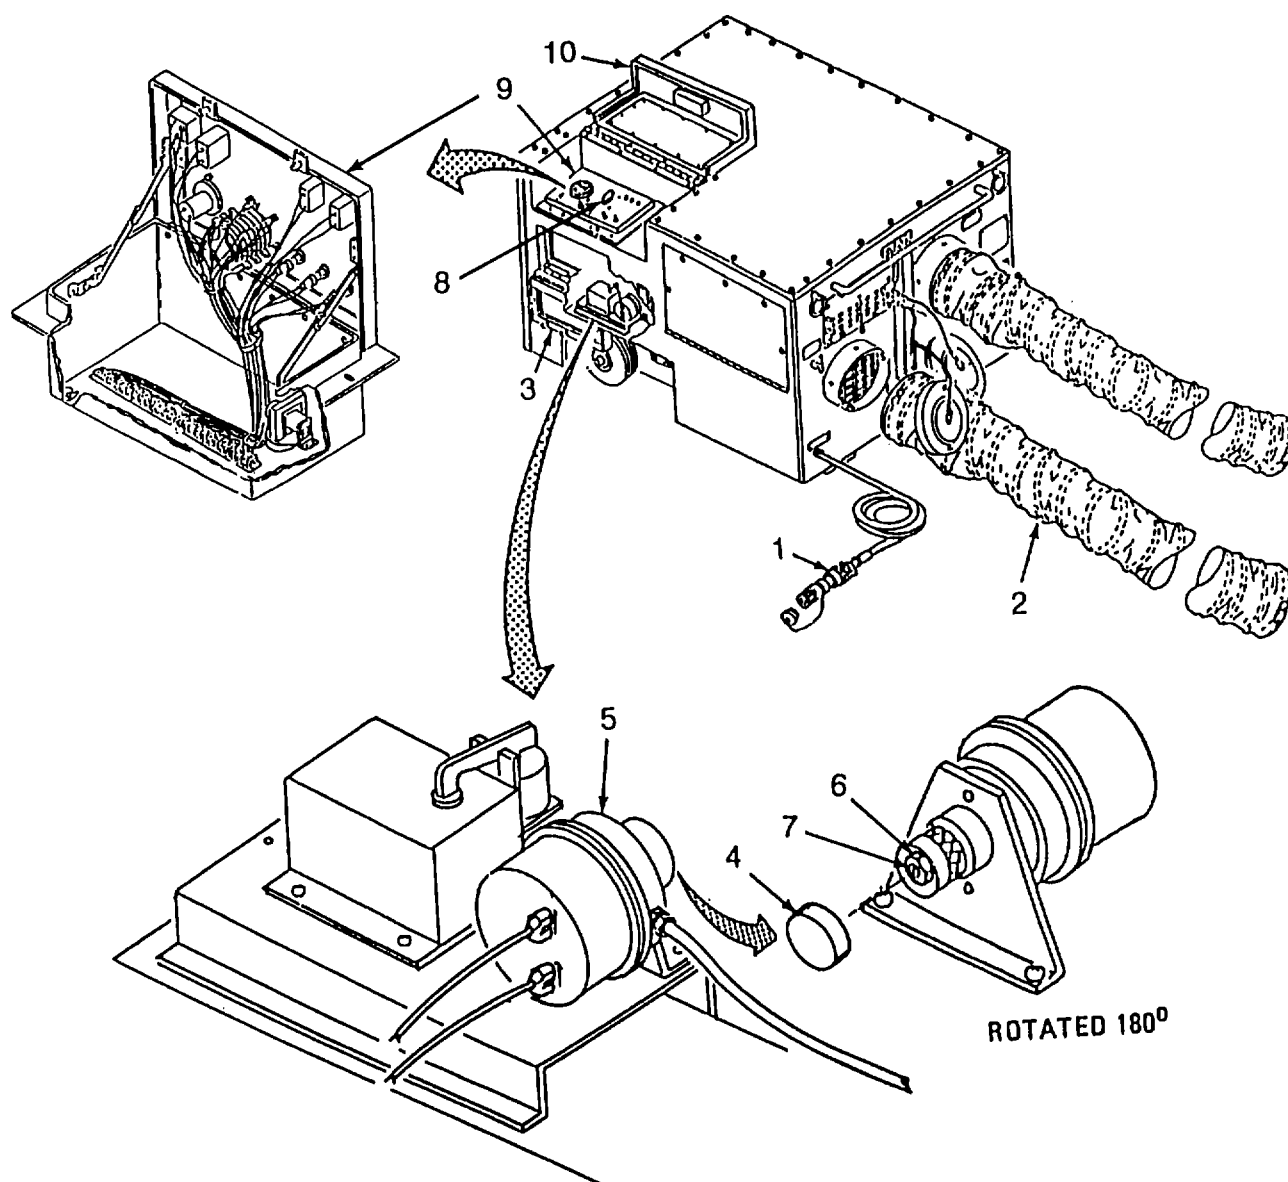

Figure 4-42. Air Pressure Switch, Adjustment
- e. Adjustment (Refer to Figure 4-42)
- (1) Disconnect power cable (1) from power source.
- (2) Remove air return duct (2) from the unit.
- (3) Open rear side door (3).
- (4) If testing indicated air switch was closed, proceed as follows:
- (a) Remove cover (4) from air switch (5), loosen locknut (6).
- (b) Turn adjustment screw (7) clockwise/in until meter indicates infinity. Turn adjustment screws (7) one quarter turn more.
- (c) Tighten locknut (6), install cover (4), and proceed to step (12).
- (5) If testing indicated air switch was open, proceed to step (6).
- (6) Remove cover (4) from air switch (5), loosen locknut (6) and turn adjustment screw (7) one half turn counter clockwise/out.
- (7) Close rear side door (3).
- (8) Connect power cable (1) to power source.
- (9) Turn MODE SWITCH (8) to the VENT position and observe meter indication.
- (a) If the air switch (5) closes the meter will indicate continuity, turn MODE SWITCH (8) to OFF and proceed to step (10).
- (b) If the air switch (5) does not close the meter will indicate infinity. Repeat steps (1), (2), (3), (6), (7), (8) and (9).
- (c) If the air switch (5) does not close after turning the adjustment screw (7) completely clockwise/in replace the air switch.
e. Adjustment - continued (Refer to Figure 4-42)
- (10) Disconnect multimeter, close control panel lid (9) and control panel cover (10).
- (11) Open rear side door (3).
- (12) Tighten locknut (6) and install cover (4).
- (13) Close rear side door (3).
- (14) Connect air return duct (2) to unit.